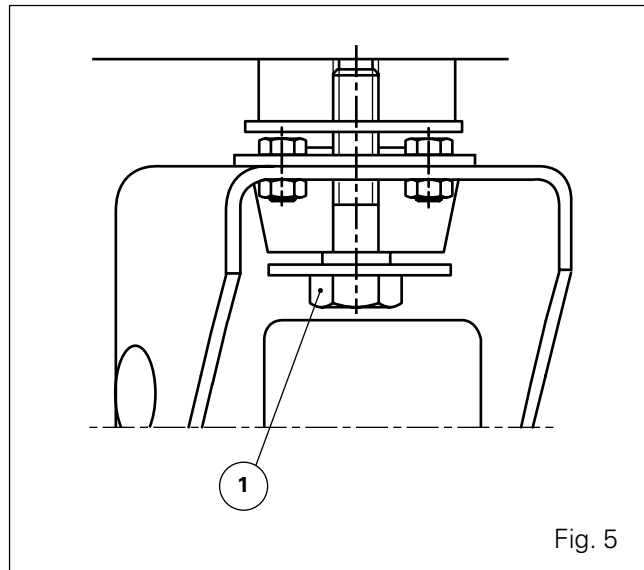

Fig. 5
47. Position the cab on its front supports (Fig. 5). Install screws (1) in silent blocks and torque to 200 - 270 Nm.